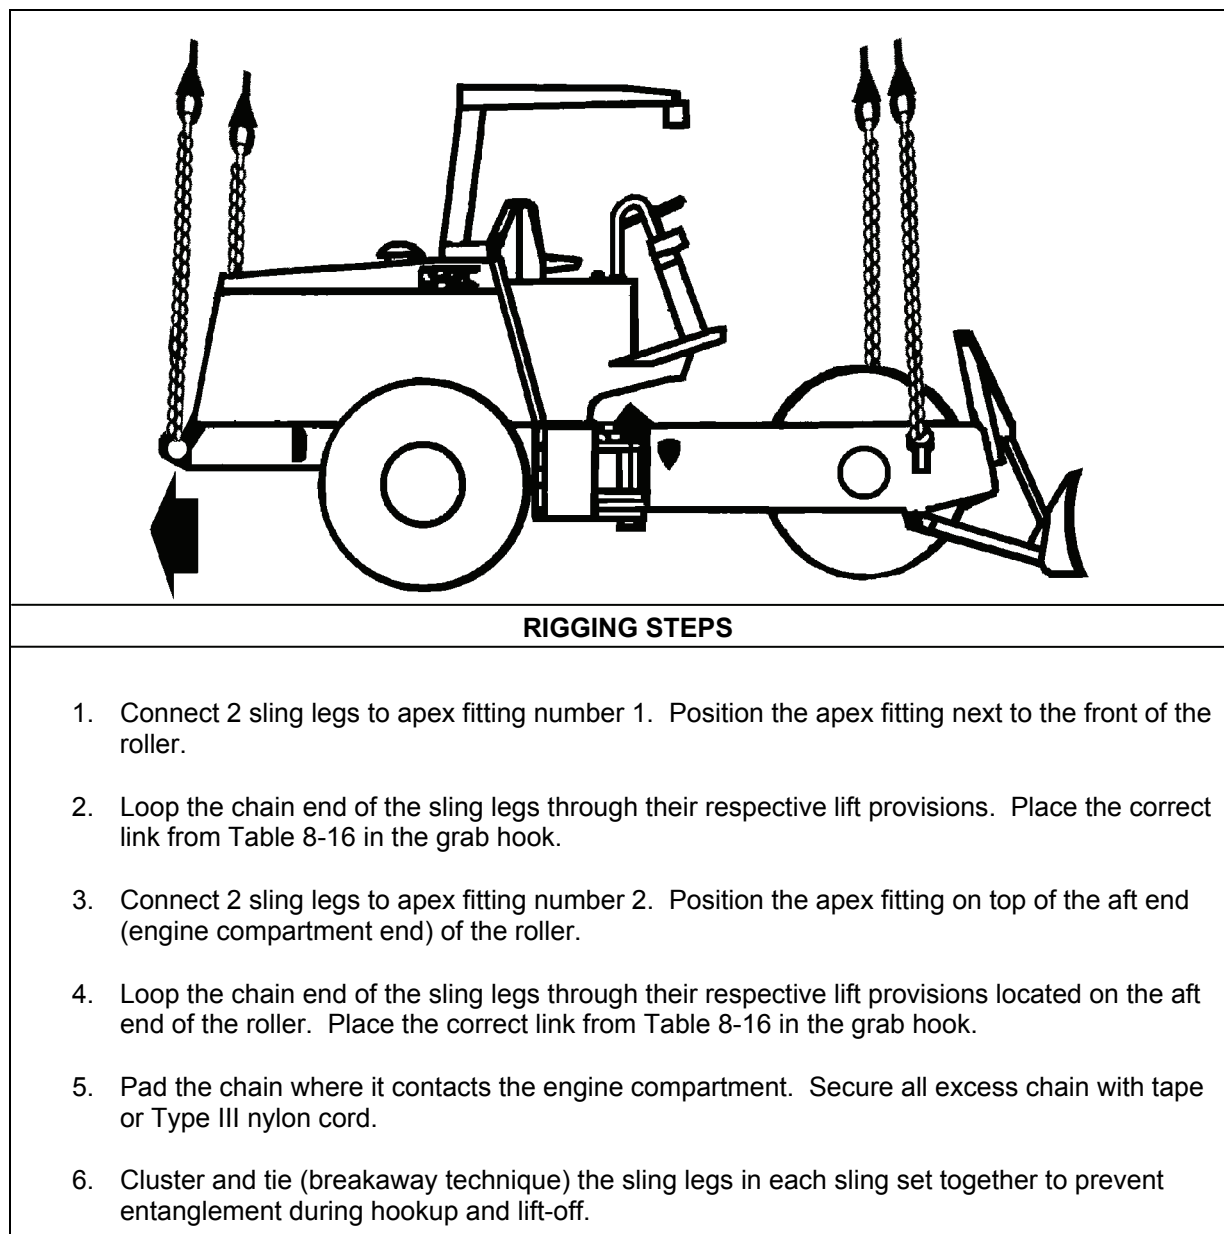

Figure 8-16. Vibrating Roller, Caterpillar, RO-33
- **Rigging.** Rig the load according to the steps in Figure 8-16.